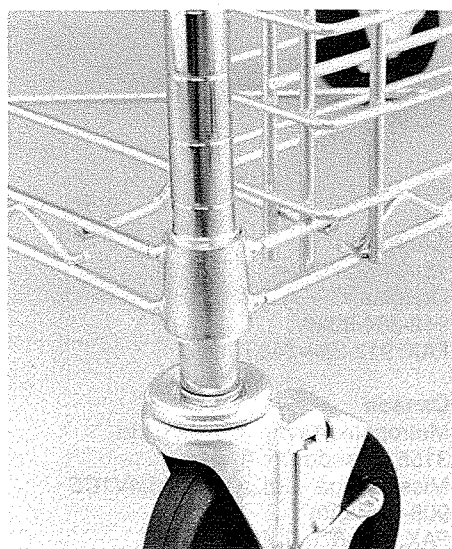

Fig. 5
7. Take one of the slides and insert into the frame so that the wires of the slide are interlocked with the frame wires as shown in (Fig. 5). Push the frame down to securely lock in position.